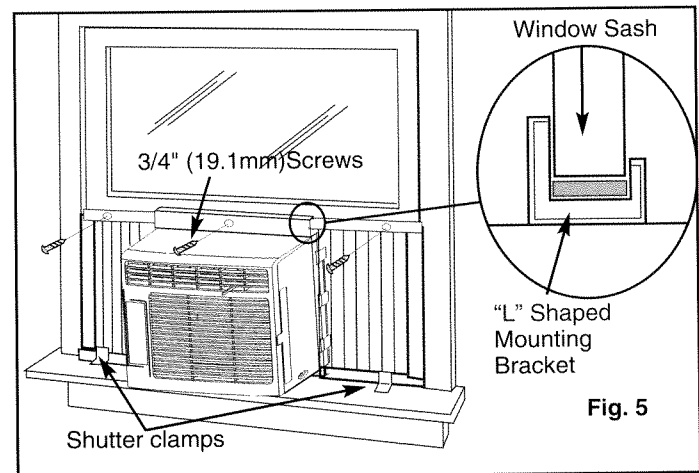

Fig. 5
- Carefully place the air conditioner into the window with the **"L" shaped mounting bracket** (on top) positioned in front of the upper window sash. The bottom of the cabinet should be positioned on the "recessed" portion of the window frame. Pull the window down until it rests just behind the front flange of the (top) **"L" shaped mounting bracket**. See Fig. 5.
- Expand the shutter frames (fully) on each side and secure the top of the frames to the window sash using one 3/4" (19.1mm) screw on each side and one in the "L" shaped mounting bracket. Fig. 5
- Secure the shutter clamp on each side of the (lower) shutter and secure to window sill using one 3/4" (19.1mm) screw on each side. Fig. 5